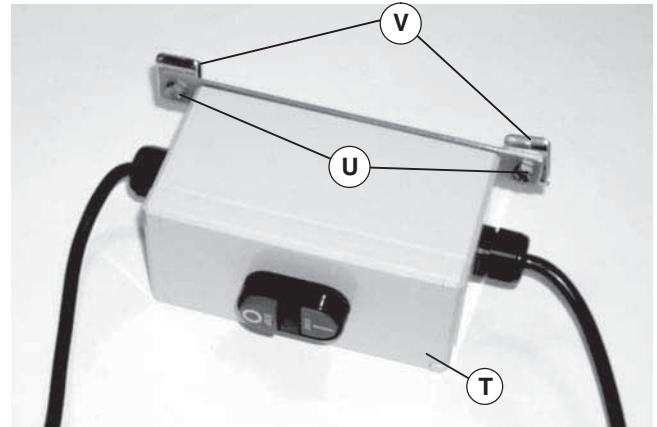

Figure 20
1. Attach two accessory mounting clips (Figure 20, item V) to motor starter (T) with two M6 x 20mm hex head cap screws (U). Do not tighten screws.